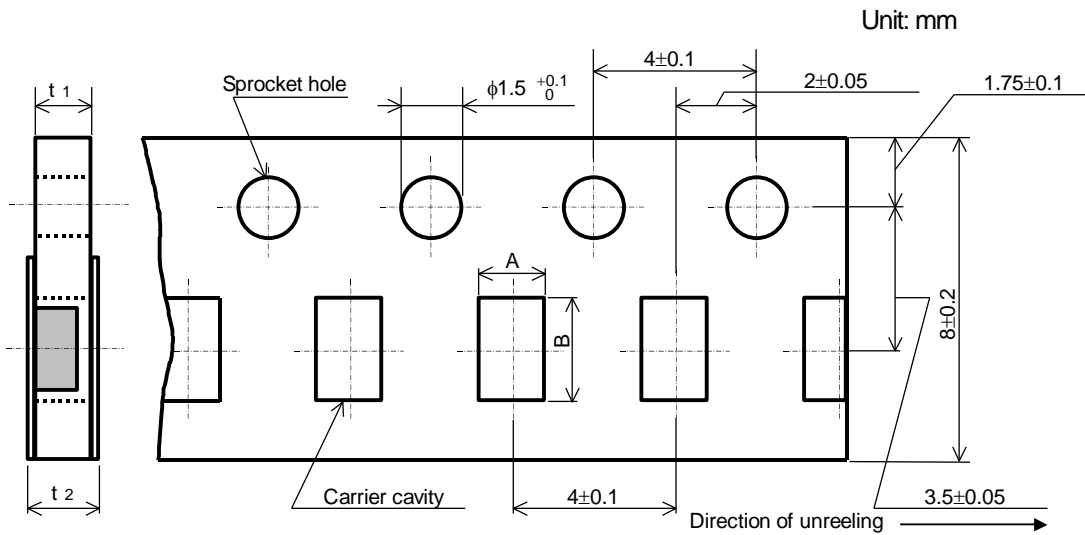

Figure-4
8.2.2 Taping dimensions shall be in accordance with Figure-4 and Table-6.